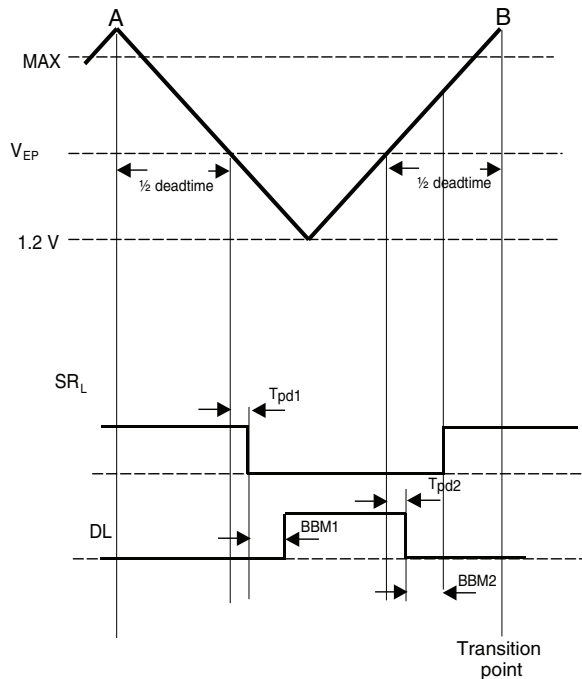

Figure 7. Components of a Low-Side Switching Period
The start of a switching period is defined as the turning point of the oscillator, marked in Figure 7 as A, with the end of a switching period marked as B. For a half bridge, two switching periods are required for both the primary high-side and low-side drivers to operate as shown in Figure 3. For a given oscillator frequency there is a finite time in which all events from equation (1) have to occur. These are t_{dt} dead-time duration which is a function of V_{EP} , t_{pd1} is the propagation delay from the PWM to SR_L (or SR_H) output going low, t_{BBM1} (or t_{BBM3}) rise delay, DL (or DH) primary driver on-time, t_{pd2} is the propagation delay from PWM to DL (or DH) output going low and t_{BBM2} (or t_{BBM4}) fall delay.
Figure 7 shows the switching cycle for the low side primary driver and associated synchronous driver and equation (1) shows the switching time components.